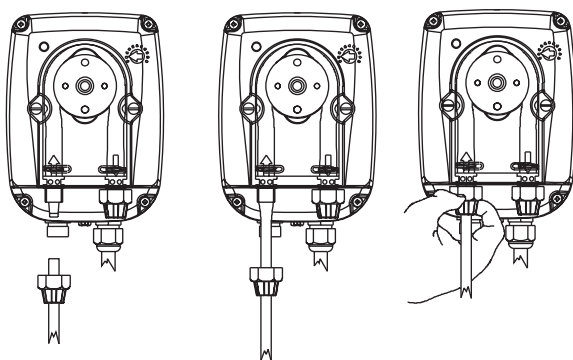

Fig. 6
- d. - Slide the hoses over the connectors, pushing them right home, and then fix them with appropriate tube nuts. (Fig. 6).